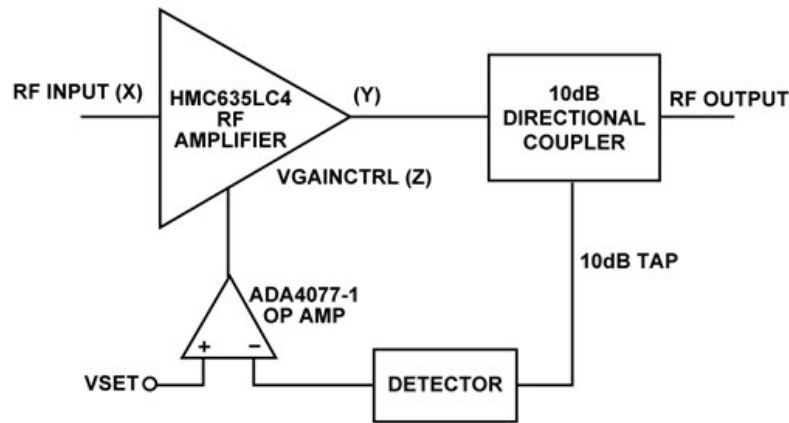

Figure 3. Simple AGC Loop
The central idea behind an AGC circuit of this type is to stabilize the amplitude of an RF signal that may vary based on frequency, temperature, or time. Typically, this circuit has two inputs. The first input is an RF input of a given amplitude whose envelope requires stabilization. The second input is a dc control applied to what is called the VSET input, and it is this input that is used to set the output amplitude. This simple loop is shown in Figure 3.
Figure 3 shows that the difference amplifier is used to compare the VSET voltage to a voltage generated by the detector circuit. The detector converts the RF amplifier output amplitude to a dc voltage. Because the RF input (X) is injected in the middle of the loop, the effect of any variation at X is minimized at the RF output (Y). This effect is true as long as the total loop gain remains high. This effect is explained by the following equations:
The circuit, as built, is more complex than can be described by the simple model of Figure 3. In the actual circuit, the VVA function is broken into two components. The first component is an HMC985A VVA, which provides attenuation from approximately 3 dB at $V_{CTRL} = -2.4\text{ V}$ to approximately 40 dB attenuation at $V_{CTRL} = 0\text{ V}$. An HMC635 RF amplifier is used for the gain stage, providing 18 dB of gain over the frequency range of interest.